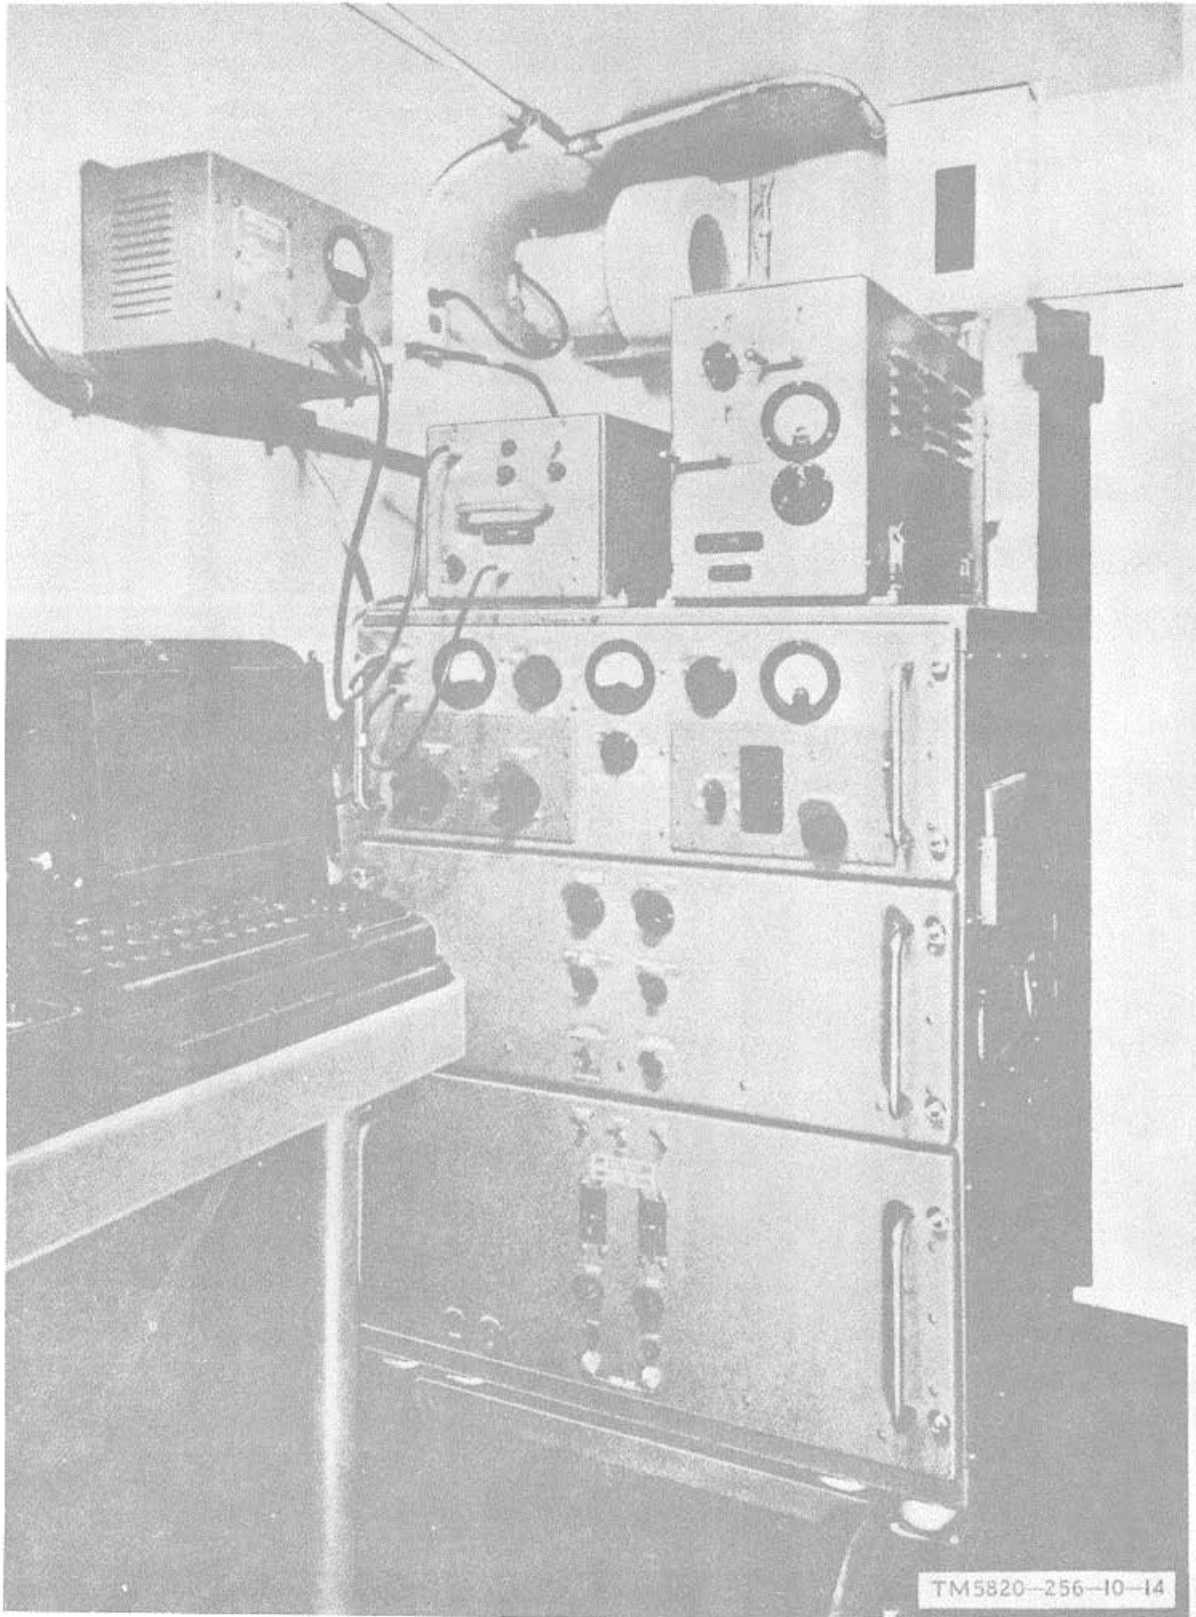

Figure 1-9. Radio Set AN/GRC-26D, interior view.
b. The power for the operation of the radio set is connected to the shelter circuit breakers through the power input feedthrough receptacle mounted in the rear wall of the shelter. The circuit breaker housing contains eight circuit breakers (fig. 1-9). Two are high current circuit breakers for the main alternating current (ac) line; four are low current circuit breakers; one is for the transmitter; one is for ,lights; one is for the heater and fans; one is for the remainder of the equipment; two are not connected.
(fig. 1-9)
1-17. Transmitter, Radio T368(*)/URT (fig. 1-9)
1-18. Standing Wave Ratio-Power Meter ME-1 65/G (fig. 1-9)
1-19. Tuner, Radio Frequency TN339/GR (fig. 1-9)